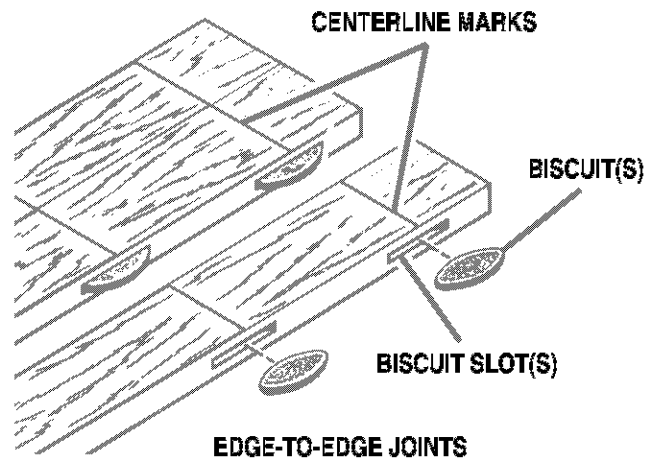

Fig. 8
- Finally, disassemble the workpieces and place a bead of glue in each slot. Also, spread a bead of glue over the entire surface of the joint. Reinsert the biscuits and assemble the workpieces. See Figure 8.